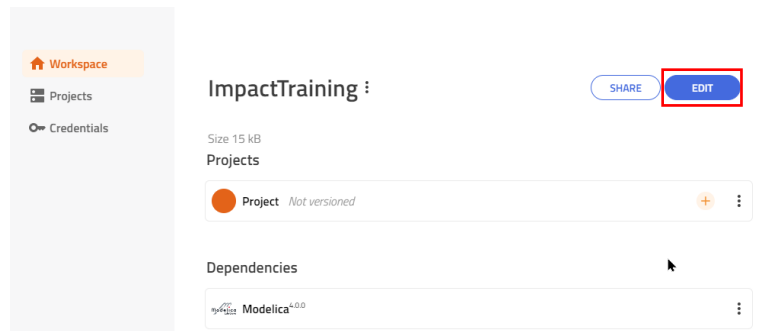

Figure 2 Workspace Configuration
3. In workspace tab click on “edit” icon  to show the libraries available in Modelon Impact as shown in Figure 2 Workspace Configuration